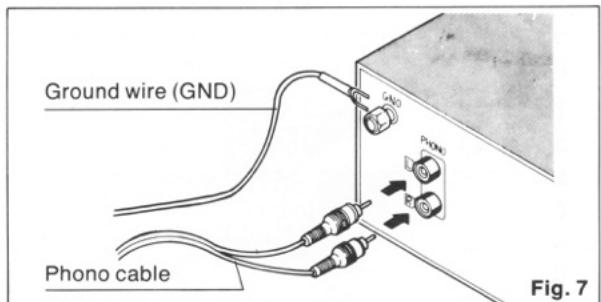

Fig. 7
2. Connect the ground wire to the ground (GND) terminal on the amplifier or to the chassis. (Fig. 7)